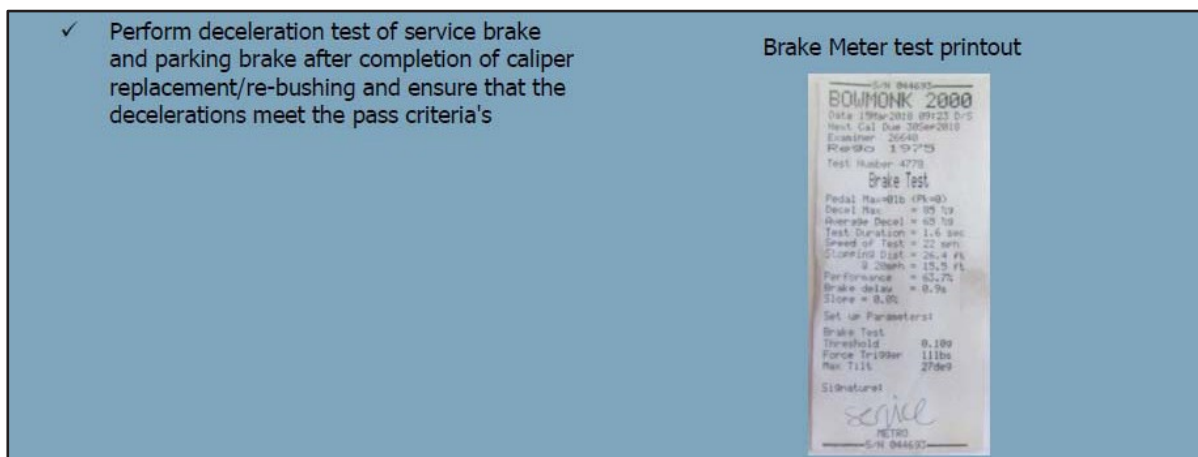

Figure 17 - Deceleration Test
1.18. Deceleration test (see Figure 17).